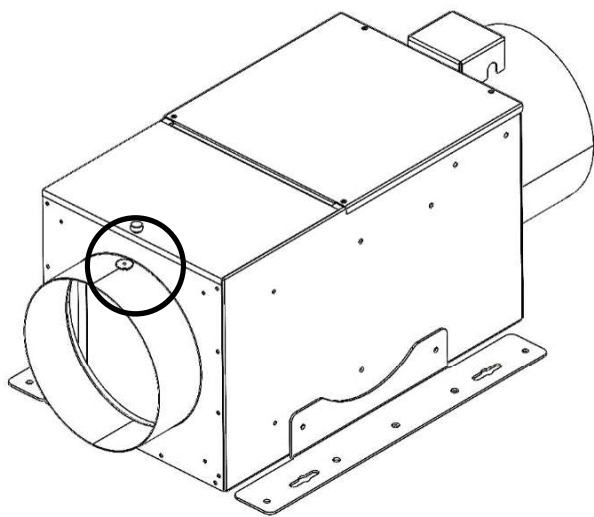

Figure 7:
- B. Remove the thumb screw securing the filter door to the housing and open the door (FIGURE 7).